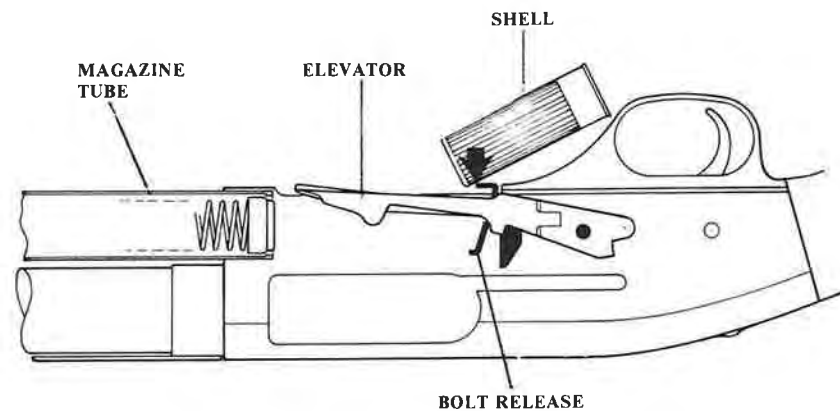

Fig. 10
**TO LOAD MAGAZINE** — With the safety in the rearward "ON" (SAFE) position and the bolt in the forward or closed position, hold the shotgun with the bottom of the receiver facing upward. Using the forward end of the shotshell press the bolt release as shown in Figure 10.